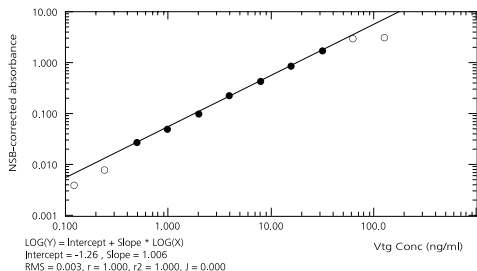
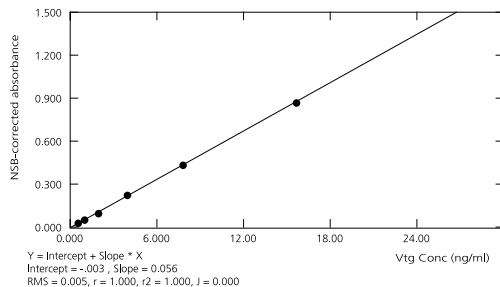
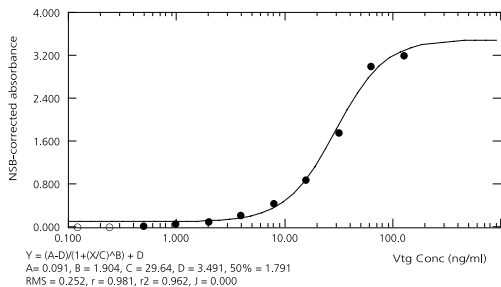

FIGURE 4A:
FIGURE 4B:
FIGURE 4C:
2. Plot absorbance values against the Vtg concentration. Perform a regression analysis, using for example log-log (Figure 4A), linear (Figure 4B) or 4-parameter (Figure 4C) transformation of the data.